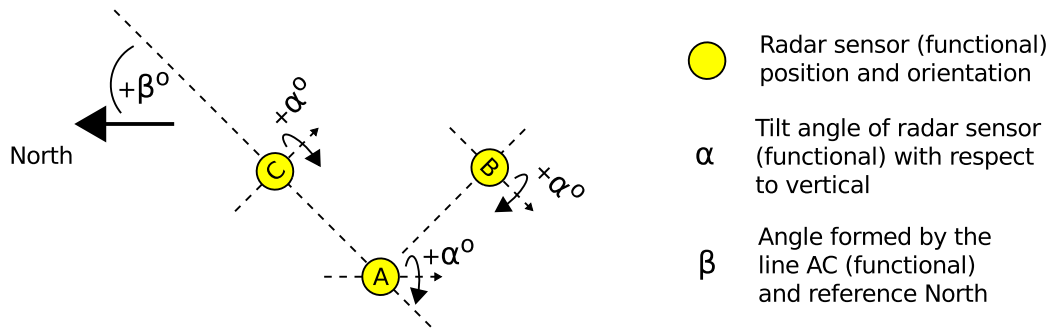
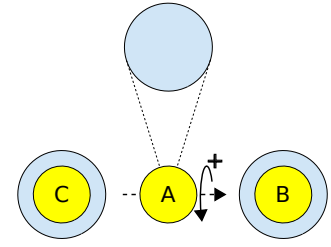

Figure 2.3: Definitions for WaveGuide Direction systems.
Figure 2.6: Top view of the three radars labeled A, B and C.
- When specifying a tilt angle for radar B and C, the tilting direction will be aligned with the position of radar A and the tilt angle will be positive when tilting away from A. (Right hand rule in Fig. 2.3.)
- When specifying a tilt angle for radar A the tilting direction will be aligned with the center between positions B and C and positive in the direction of the center between B and C. (Right hand rule in Fig. 2.3.)
In some cases it can be decided to mount the three radars in line with each other, for example when mounting them to the railing of an offshore platform. This installation is called a line array. In this case the central radar needs to be tilted to obtain a triangular reflection footprint, which is illustrated in Fig. 2.6. In a line array, the tilting definitions (Fig. 2.3) require that radar A is positioned between radar B and C. This allows tilting radar A away from the line B-C and by doing so forming a triangle with the radar foot prints on the water surface. The direction of the radar tilt angle is defined with the right hand rule as shown in Fig. 2.6. It is advised to select non-tilted radar B or C as the "heave source", which is the source of data for calculating the non-directional wave parameters.